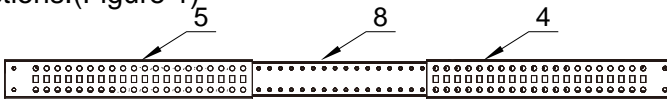

Figure 1
1. Align the Left corner Brackets(#4 )and the Right corner Brackets(#4) with the Center Sections(#8),slide the Corner Brackets overtop of the Center Sections.(Figure 1)